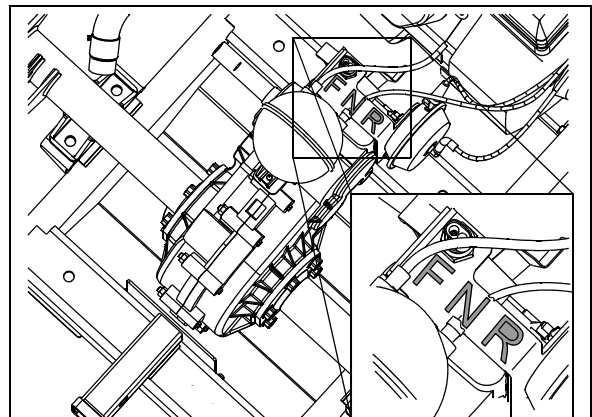

Figure 23
- Place shift lever into the neutral position. See Figure 23.